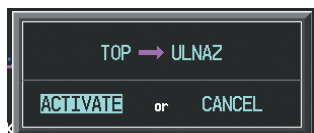

Figure 7-20 Confirm Active Leg
- Press the **ACT LEG** Softkey. The confirmation window is now displayed as in Figure 7-20. Note the TOP to ULNAZ leg is actually part of V4.